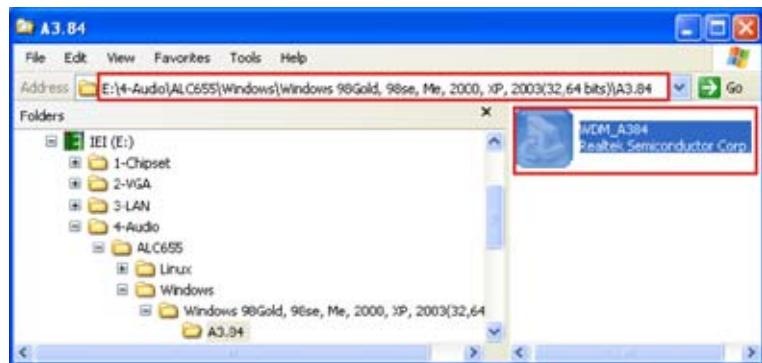

Figure 7-21: AC'97 Audio Driver Options
Step 48: Browse to “E:\4-Audio\ALC665\Windows\Windows 98Gold, 98se, Me, 2000, XP, 2003(32,64 bits)\A3.84” Figure 7-21
Step 49: Double-click the installation file in **Figure 7-21**.